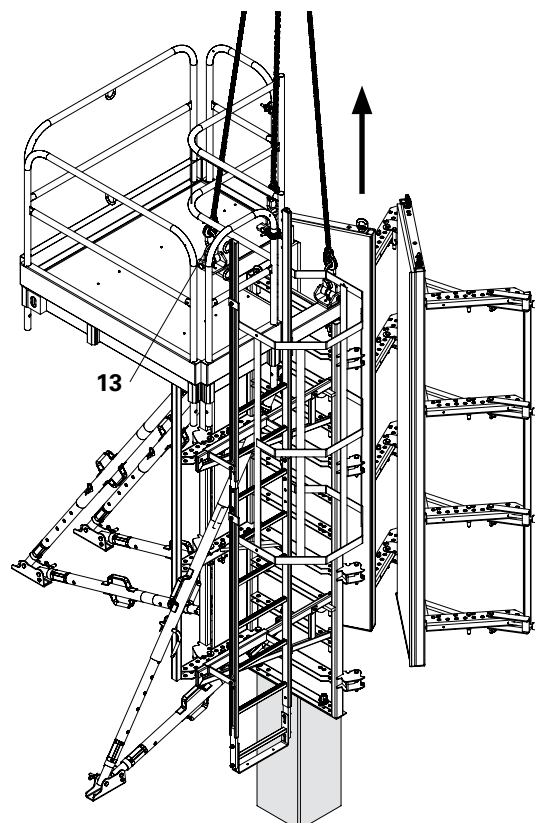

Fig. A5.02
1. Attach lifting gear to the 3 crane eyes on the concreting platform (13).
3. Position formwork for cleaning and secure.(Fig. A5.02)